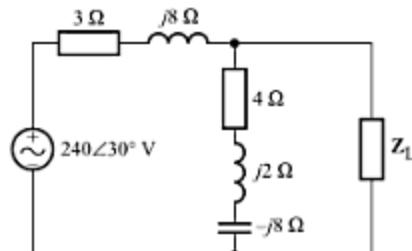

Fig. C-81
- C-134.** What load impedance  $Z_L$  in the circuit shown in Fig. C-81 absorbs maximum average power and what is this power?